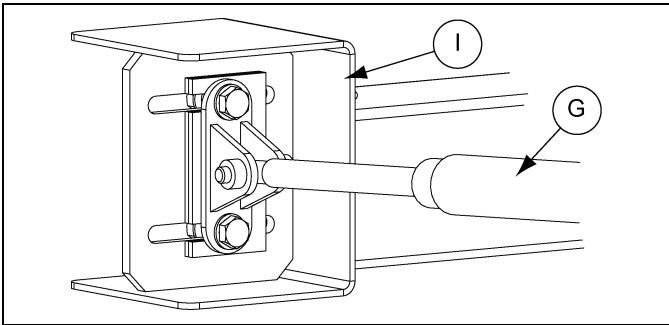
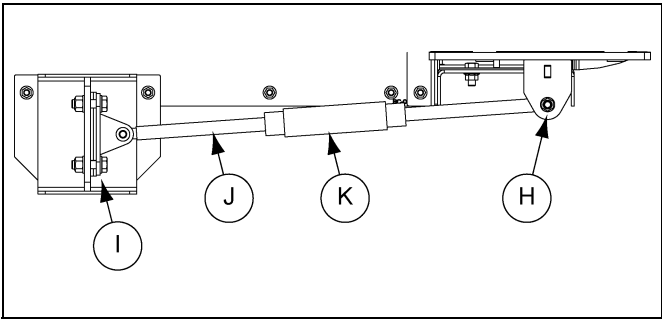
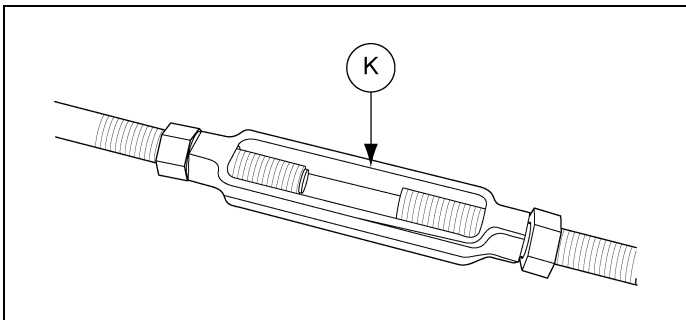

Figure 5D Torque Arm Bracket
Figure 5E Torque Arm Assembly
Figure 5F Turnbuckle
7. The torque arm bracket (I) is mounted under the first intermediate section. Locate bracket by matching an existing set of holes in the intermediate side that allows the turnbuckle assembly to be as short as possible with the reducer in a vertical position. (See Figure 5D, Figure 5E and Figure 5F.)